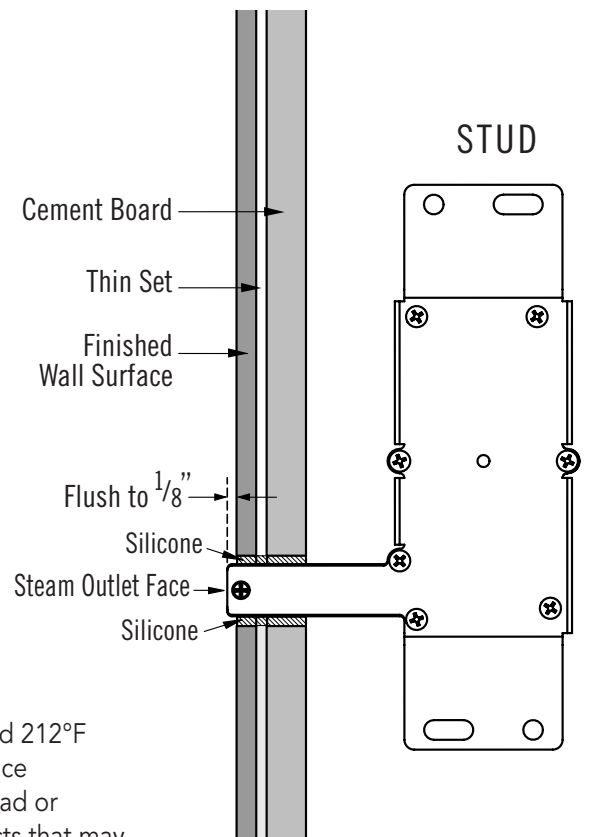

Figure 4
**STEP 3.** Determine the location of the finished wall surface. Mount the steam head between two studs using the four slotted holes to position the steam outlet face to be flush or extend 1/8" from the finished wall surface (see Fig. 4).
**STEP 8.** After the finished wall surface has been installed use high temperature caulking around the steam outlet as required to make a waterproof seal. (see Fig. 4)